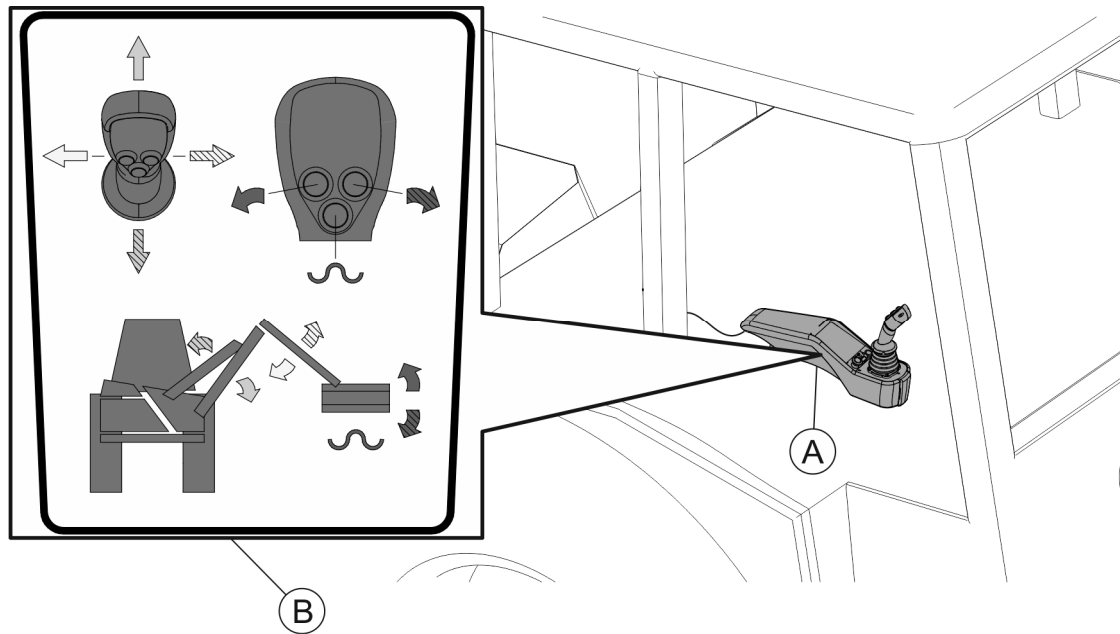

FIGURE 4.4 The control panel with joystick of WWT424C/WWT484C multifunction arm in the carrier vehicle's (agricultural tractor`s) cab with a pictogram.
- Mount the control panel and joystick (A) (FIGURE 4.4) of WWT424C/WWT484C multifunction arm inside the carrier vehicle's (tractor) cab in the place which makes it possible to manoeuvre the controls freely from the seat of the carrier vehicle (tractor) operator. The control panel should be mounted in a stable manner, without weakening the protective structure of the carrier vehicle (tractor). Connect the plug of the control panel's wiring harness (A) (FIGURE 4.4) to the connection socket (4) of the multifunction arm's electrohydraulic system.